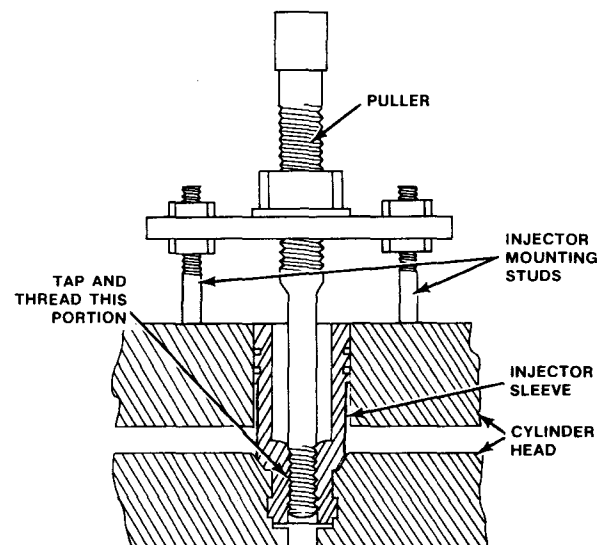

FIG. 40 Removing Injector Sleeve
4. If any injector sleeve must be removed from the cylinder head, tap the sleeve with an appropriate size tap, install a puller, and remove the sleeve from the top of the head (Fig. 40).